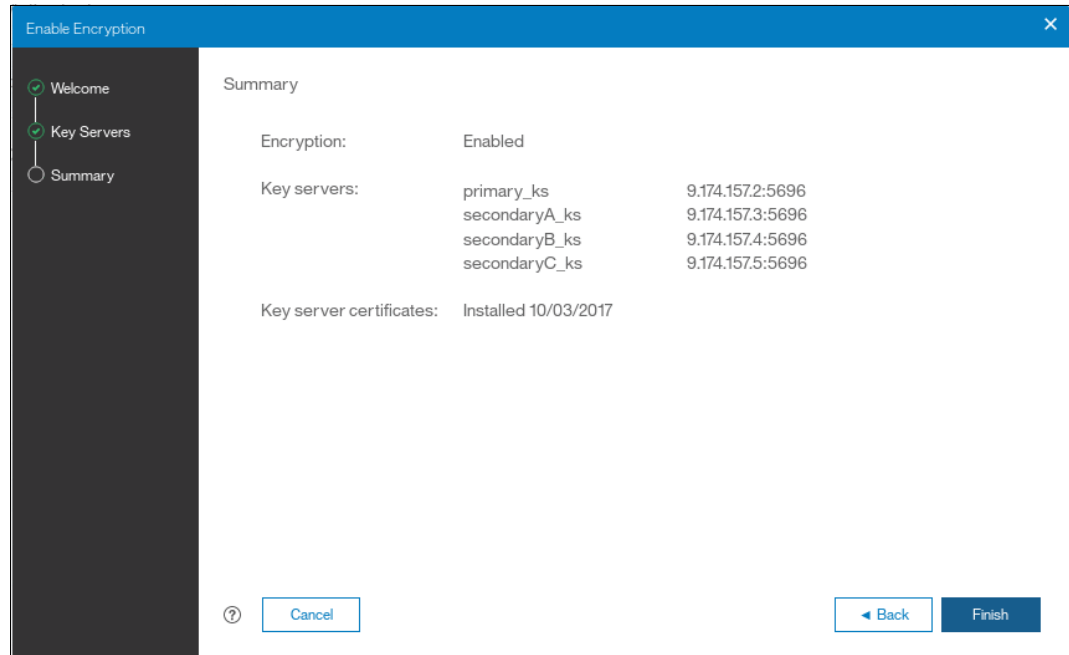

Figure 13-37 Finish enabling encryption using a key server
9. The key server configuration is shown in the Summary tab, as shown in Figure 13-37. Click **Finish** to create the key server object and finalize the encryption enablement.